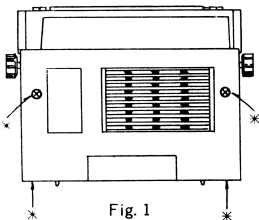

Fig. 1
2. Remove the four screws marked (*) and separate the back lid shown in the Fig. 1.